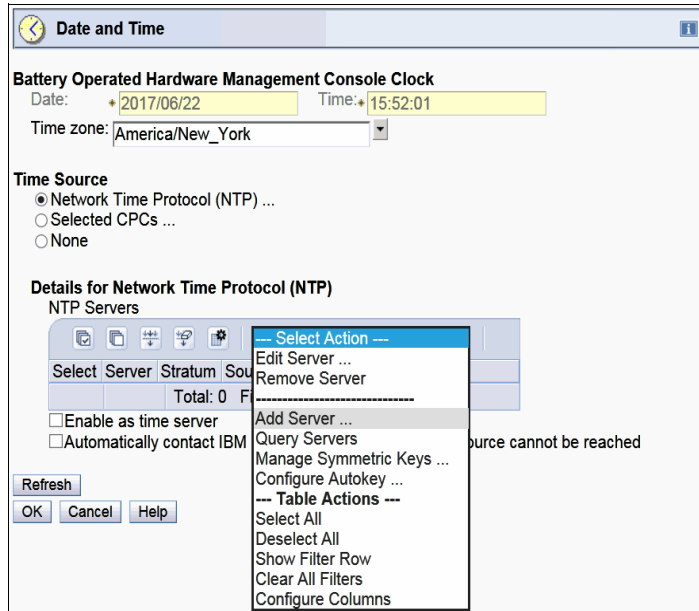

Figure 8-5 Selecting the Add Server option
3. Select **Add Server** from the **Select Action** list (see Figure 8-5).